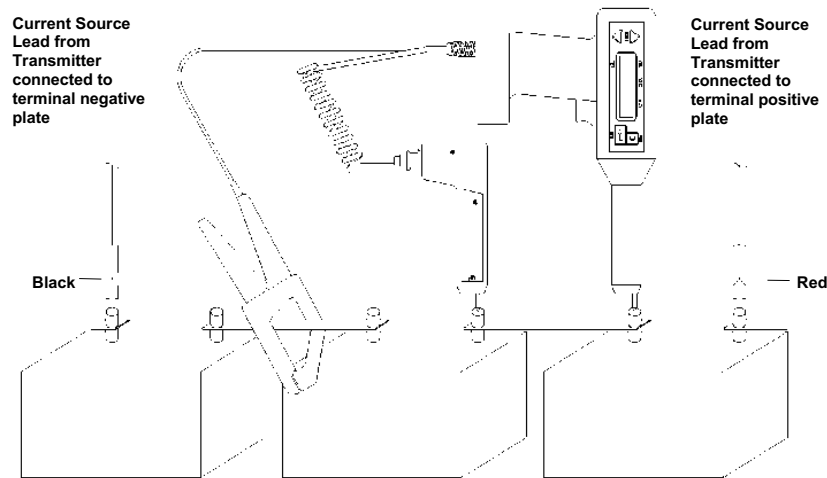

Figure 5-7: Receiver and Potential Probe Positioned on top of Battery Strap Terminals
4. Position the **receiver** and potential probe on top of the battery strap terminals, and then press the probes down. See the sample placement shown in Figure 5-7.
See the sample placement shown in Figure 5-7.